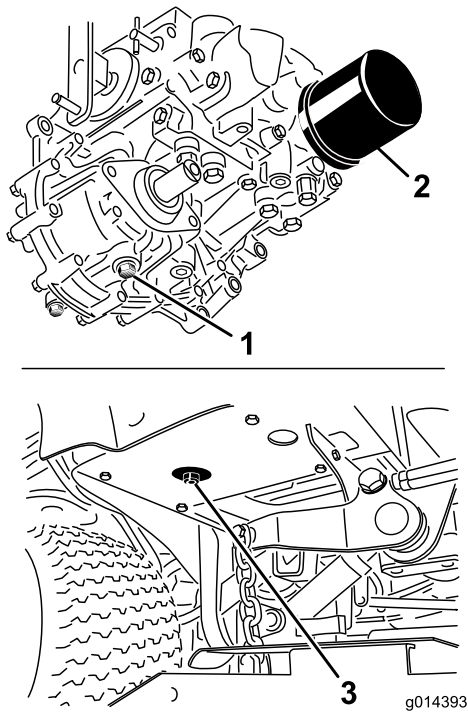

Figure 54
3. Place a large pan under the hydraulic reservoir and transmission case and remove the plugs, draining all of the hydraulic fluid (Figure 54).
4. Clean the area around the hydraulic oil filter and remove it (Figure 54).